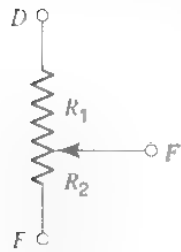

Fig. 6
13. A potentiometer is a voltage divider with a variable division ratio. The symbol for this element is shown in Fig. 6. The total resistance between terminals D and E is constant. The resistance between F and D is R_1 , and that between F and E is R_2 . The arrow represents a slider, which can slide up and down the length of the potentiometer. (Many practical potentiometers have the resistance laid out over part of a circle, and the slider must be rotated rather than moved up and down.) Thus, the values R_1 and R_2 can be varied, while their total resistance, $R_1 + R_2$, stays fixed.¹ In this way, a variable voltage divider can be implemented, as is evident from eq. 4. Use the ohmmeter to study the potentiometer provided to you. Do *not* connect anything else to the potentiometer in this step. Identify the terminals D, E, and F, and determine the minimum and maximum values of R_1 , R_2 , and $R_1 + R_2$.
¹Potentiometers in which R_2 varies in proportion to the slider's displacement from the bottom position in Fig. 6 are called *linear* potentiometers. Another variety is *logarithmic* potentiometers, in which $\log R_2$ is proportional to the above displacement. These are appropriate for use in volume-control circuits because the perception of loudness follows a logarithmic law